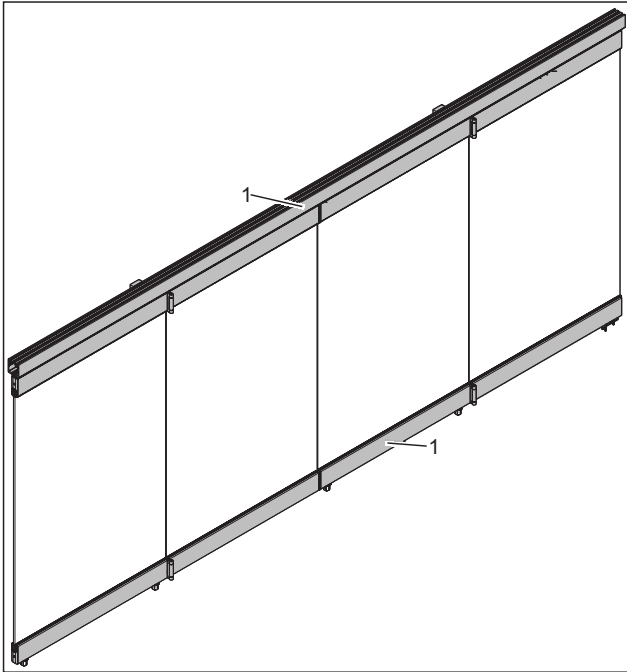

Fig. 22 Clean the metal parts of the folding sliding wall
1. Clean painted metal surfaces with glass cleaner (Fig. 22/1).